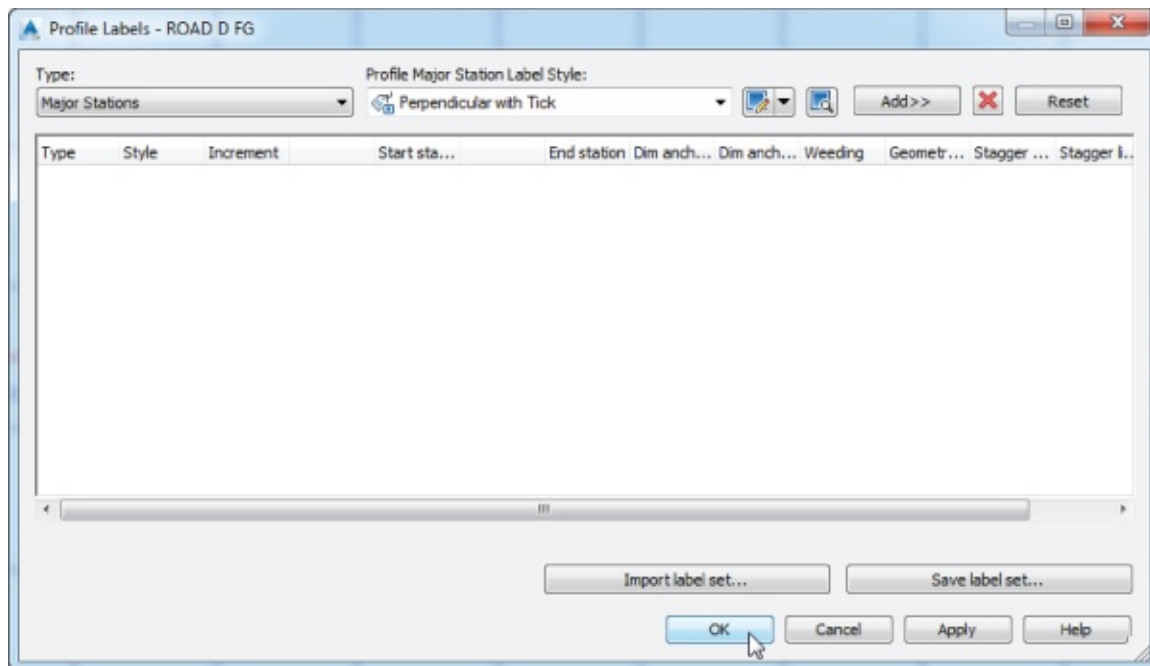

Figure 7.68 An empty Profile Labels dialog
3. From the Profile contextual tab > Labels panel, choose Edit Profile Labels to display the Profile Labels dialog (see Figure 7.68).